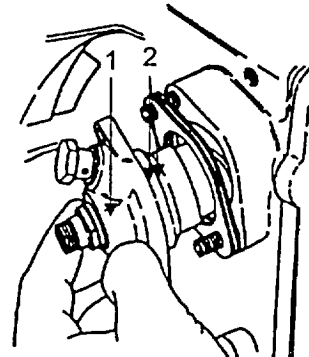

FIGURE 5-8. PLACING SHIMS
The end of delivery is delayed or advanced by adding or removing shims (Figure 5-8, Item 1) to injection pump (2). The general rule for shimming is as follows: More shims = end of delivery later (lower number of degrees). Less shims = end of delivery earlier (higher number of degrees).